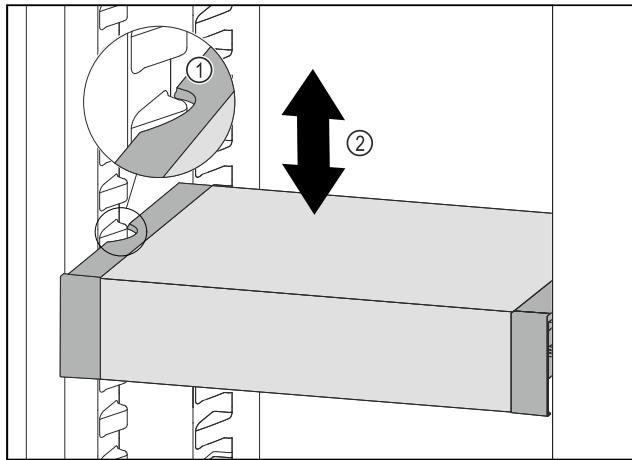

Fig. 86
- ▶ Pull VarioSafe forwards until the recesses in the side of the VarioSafe are at the level of the support rib in the refrigerator compartment. *Fig. 86 (1)*
- ▶ Move VarioSafe up or down in the refrigerator compartment until the desired height is reached. *Fig. 86 (2)*